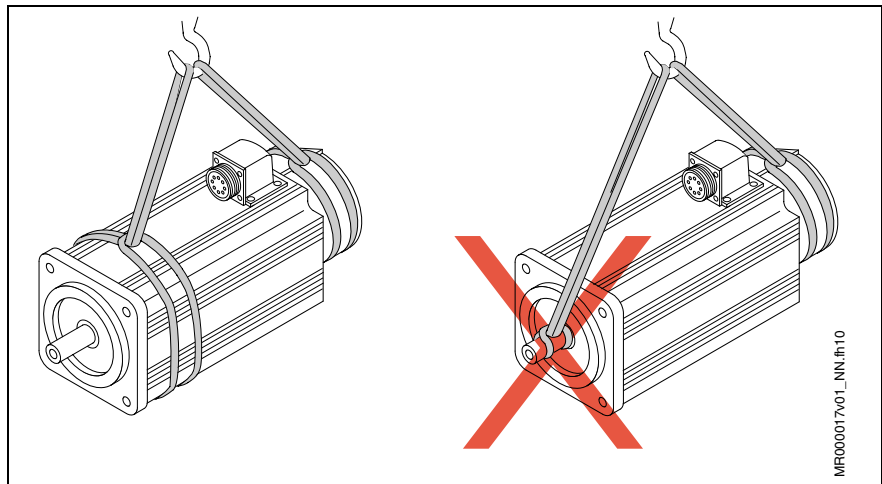

Fig 9-3: Lift a motor
- To lift the motor/-gearbox combinations use a crane and lifting sling belts (see Fig. 9-3).